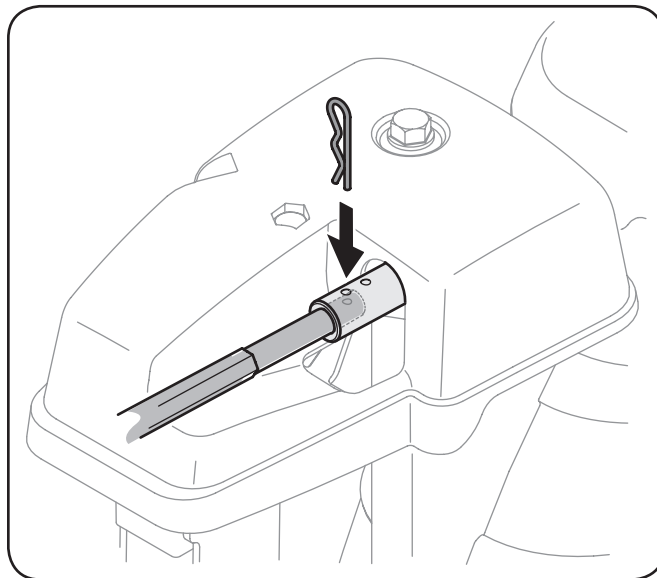

Figure 6-7
2. Pull out the chute control rod until the hole in it lines up with the second hole in the chute rotation assembly. See Figure 6-7.
3. Reinsert the cotter pin through this hole and the chute control rod. See Figure 6-7.